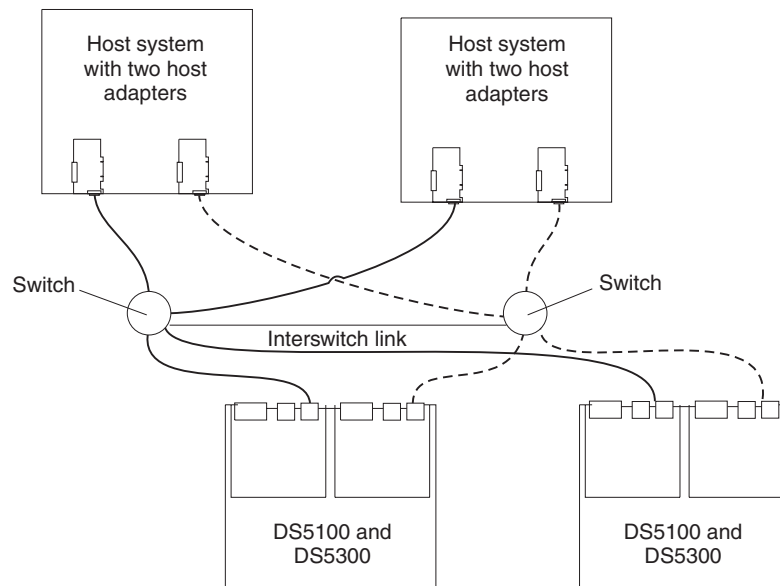

Figure 80. Example of two storage subsystems in a single SAN fabric environment
- Dual SAN fabric configuration, with an additional DS5100 and DS5300 attached, as shown in Figure 80 on page 117
In Figure 80, the fibre channel switches are connected together.